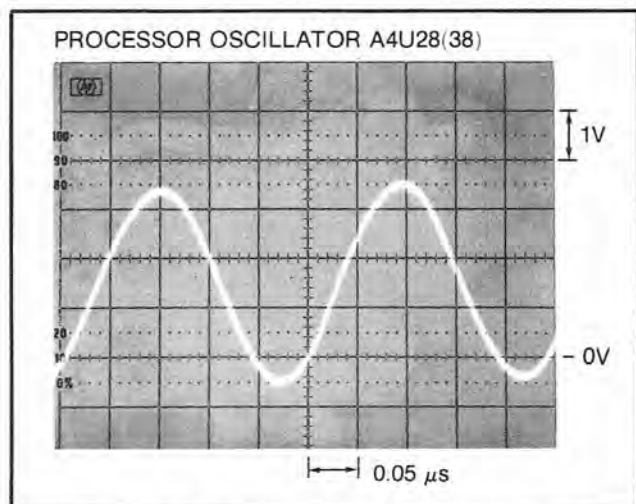

Figure 8-80. 4 MHz Microprocessor Oscillator Signal
a. Verify that the 4 MHz Microprocessor Oscillator signal is present at A4U28(39) and compare with the typical waveform shown in Figure 8-80.